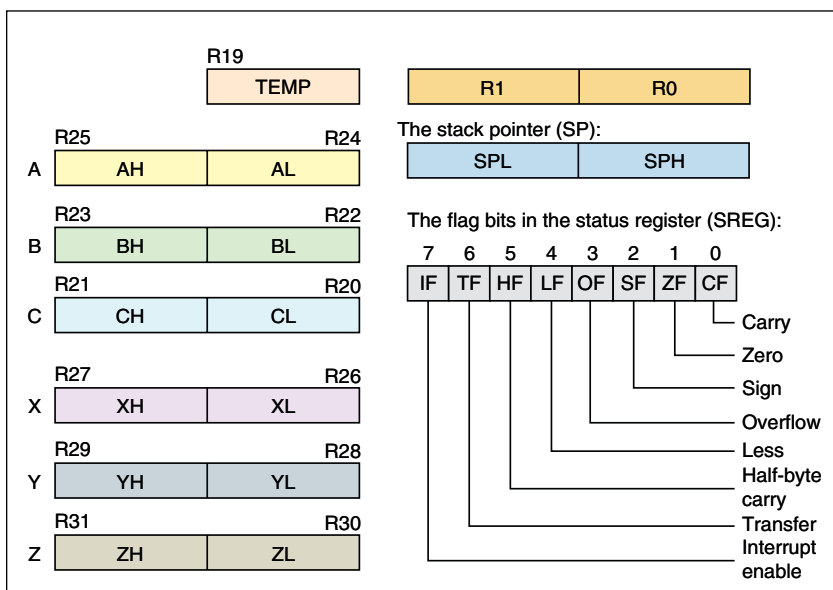

FIGURE 3
Our virtual machine has three working registers A, B, C and three address registers X, Y, Z (**Figure 3**). These registers consist of two bytes each, which can be accessed separately. Register A is the accumulator. Register B typically receives the second operand. Register C is mainly used for counting and auxiliary functions. The address registers X, Y, Z belong to the basic AVR architecture. Additionally, the macros may access a general working register TEMP, the registers R0 and R1, the stack pointer (SP) and the status register (SREG). The remaining registers of the AVR register file are freely available. The comprehensive documentation, individually describing each macro, is quite voluminous. With that in mind, we will limit the description to an overview (**Table 2**) and supplement it with some details and examples. The documentation and the source code are available for download. Links to them can be found on *Circuit Cellar's* article materials webpage.